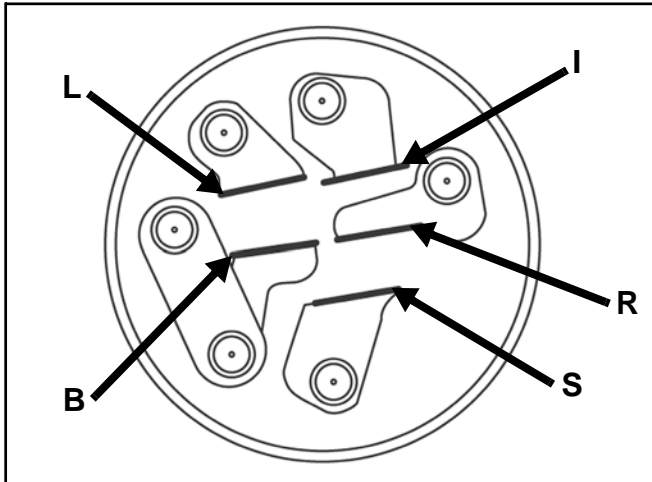

Figure 32
2. Verify that continuity exists between the terminals listed for the switch position. Verify that there is **NO** continuity between terminals not listed for the switch position (Figure 32).